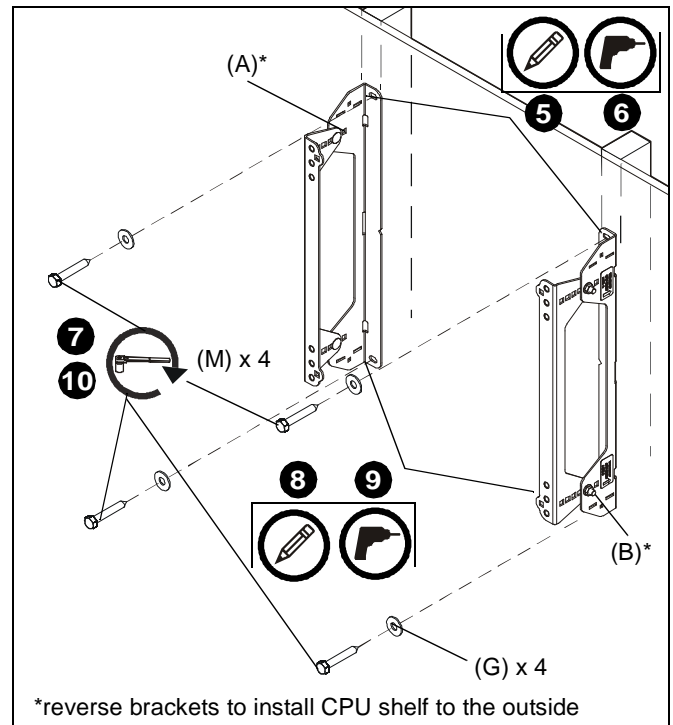

Figure 2
5. Using a level, mark the wall on each stud to attach the brackets through the upper mounting slots. (See Figure 2)
7. Use two 5/16 x 2-1/2" lag bolts (M) and two 5/16" flat washers (G) to attach top of brackets (A and B) to wall. (See Figure 2)
**NOTE:** If desired CPU location is off to the side of the display, reverse brackets (A and B) from how they are shown in Figure 2.
8. Mark the attachment points for the lower mounting slots, making sure the attachment points are located on the studs. (See Figure 2)
9. Drill 7/32" (5.5mm) pilot holes at markings for lower mounting holes. (See Figure 2)
10. Use two 5/16 x 2-1/2" lag bolts (M) and two 5/16" flat washers (G) to attach the accessory to the wall through the lower mounting holes. (See Figure 2)